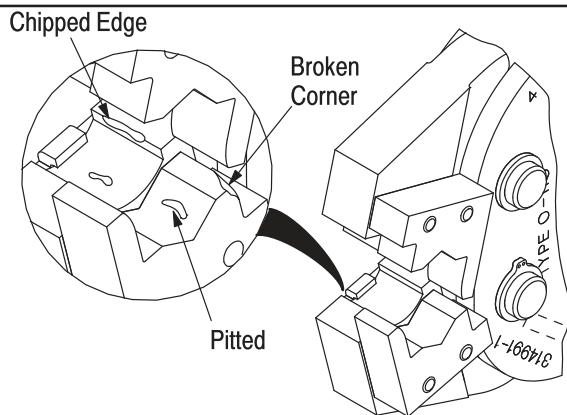

Figure 5
3. Inspect crimp area for flattened, chipped, or broken areas. See Figure 5. Replace worn or damaged parts.